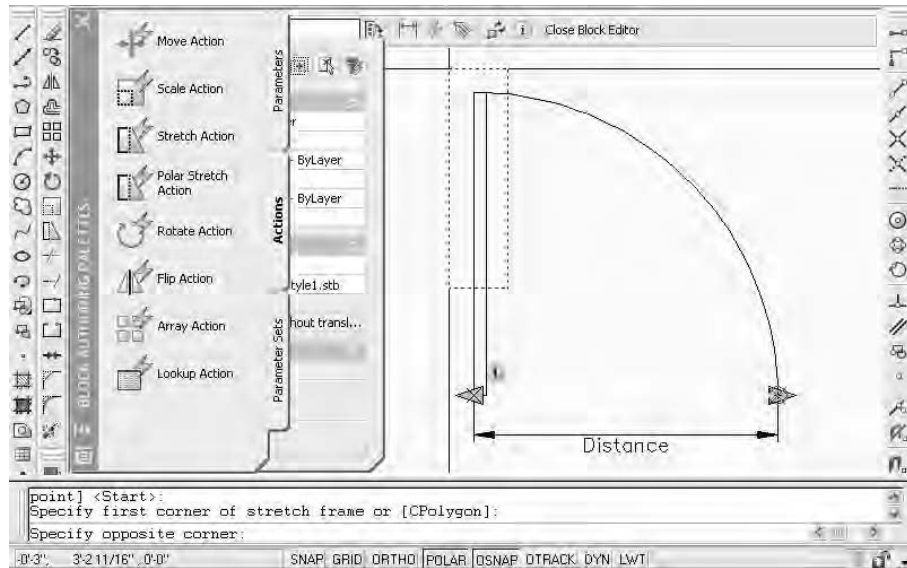

FIGURE C.15: The crossing window for the Stretch Action
3. Form a crossing window around the upper half of the door, as shown in Figure C.15.